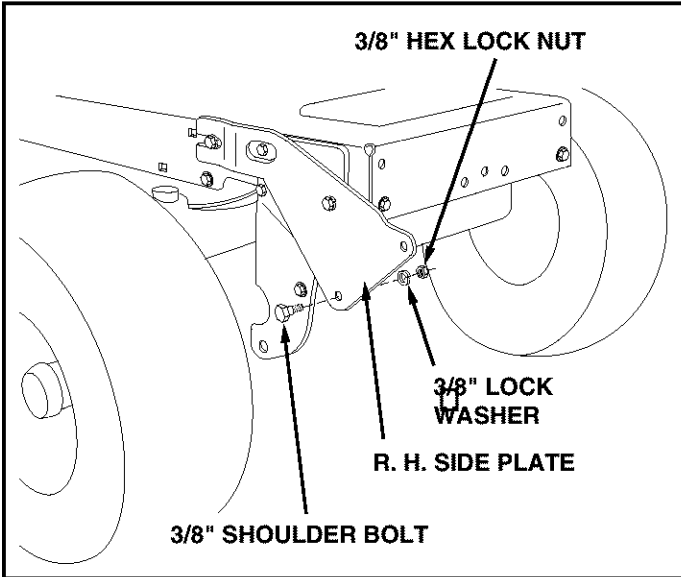

FIGURE 3 RIGHT SIDE VIEW
- Assemble a shoulder bolt, a 3/8" lock washer and a 3/8" hex lock nut to the bottom hole in each side plate. See figure 3.